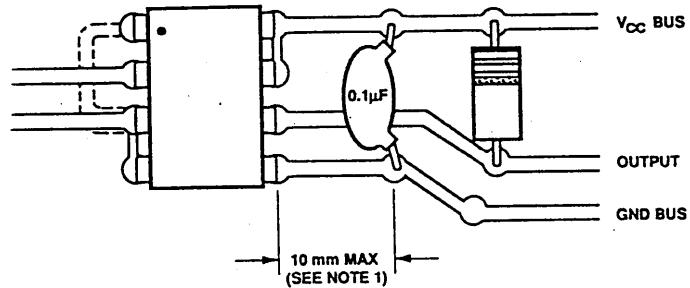

figure 15. Recommended Printed Circuit Board Layout.
sing of the power supply line is ed with a $0.1 \mu\text{F}$ ceramic disc tor adjacent to each opto- r, as illustrated in Figure 15. lead length between both ends capacitor and the isolator pins not exceed 10 mm.
8. CM_L is the maximum tolerable rate of fall of the common mode voltage to assure that the output will remain in a low logic state (i.e., $V_{OUT} < 0.8 \text{ V}$). This specification assumes that good board layout procedures were followed to reduce the effective input/output capacitance as shown in Figure 15.